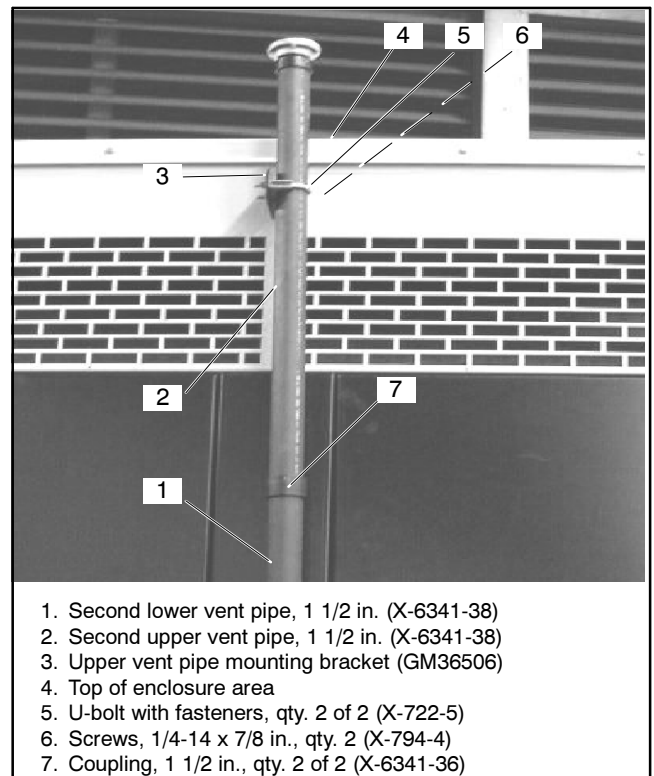

Figure 25 Upper and Lower Vent Pipe Assembly Typical
2.3.7 Place second 1 1/2 in. upper vent pipe X-6341-38 into third 1 1/2 in. coupling X-6341-36. See Figure 25.
2.3.8 Slide upper vent pipe mounting bracket GM36056 subassembly to mounting area near the top of the enclosure. See Figure 25.
2.3.10 Remove second 1 1/2 in. upper vent pipe X-6341-38 and upper vent pipe bracket subassembly from third 1 1/2 in. coupling X-6341-36. See Figure 25.
2.3.13 Use PVC adhesive and attach the bottom of second 1 1/2 in. upper vent pipe X-6341-38 to the top of third 1 1/2 in. coupling X-6341-36. See Figure 25.
Note: Third coupling X-6341-36 was previously attached to second 1 1/2 in. lower vent pipe X-6341-38. See Figure 25.